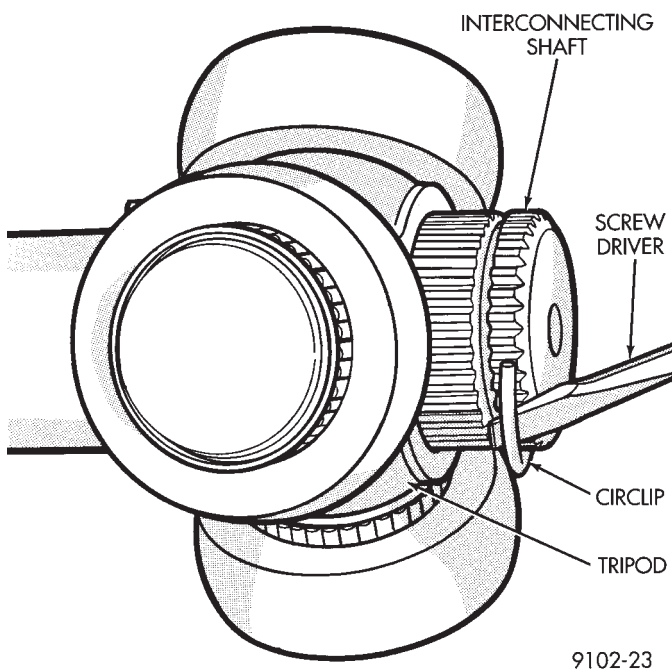

Fig. 6 Removing Circlip
(2) Slide the tripod back along the shaft, either by hand or by tapping the body with a brass drift. This will expose the circlip on the end of the interconnecting bar.
(3) Remove the circlip from the end of interconnecting bar (Fig. 6).